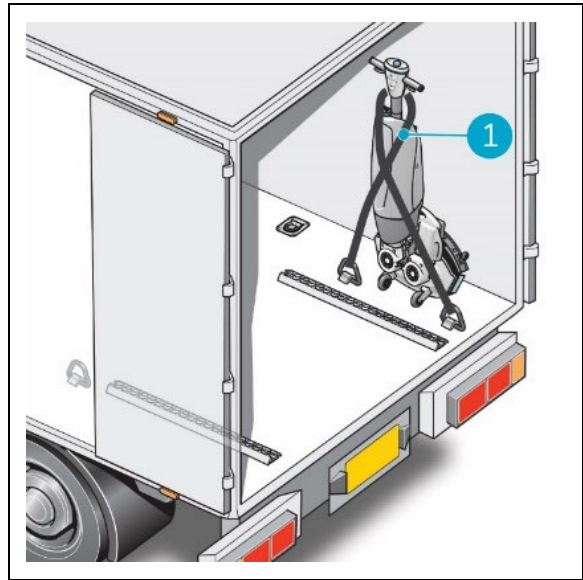

Figure 8
5. Secure the i-mop using a tension belt or another appropriate restraint (Figure 8, pos 1).